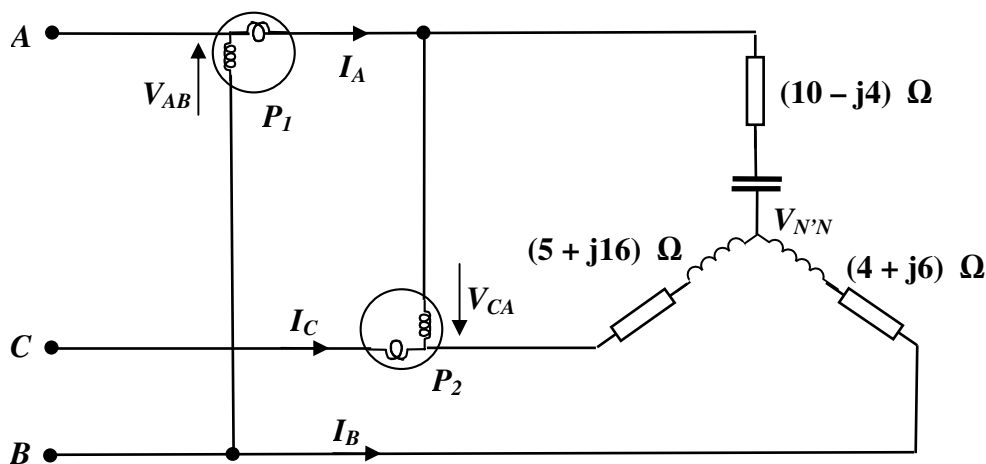
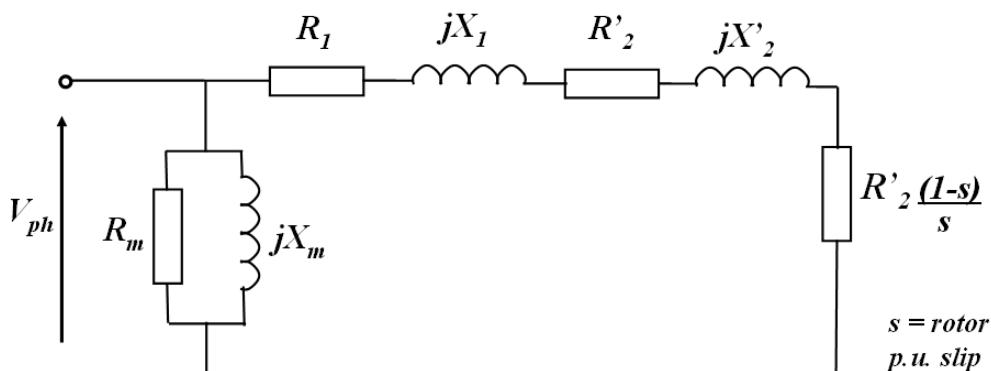

Figure 3.1
Figure 4.1
A 3-phase, star-connected load is supplied via a balanced 415V, 3-phase, 3-wire supply, of phase sequence ABC. The 3-phase load consists of three single-phase loads of $(10 - j4) \Omega$, $(4 + j6) \Omega$ and $(5 + j16) \Omega$, connected between phases A, B, C and the load star point respectively, as illustrated in Figure 3.1.
- (i) calculate the voltage across each phase of the load (8)
- (ii) hence calculate the three line currents (2)
- b. During installation, the wattmeters, P_1 and P_2 , were not correctly connected as shown in Figure 3.1:
- (i) sketch the phasor diagram for the system showing the three phase and line voltages, the three line currents and their relevant angles. (3)
- (ii) hence, calculate the readings on the two wattmeters and the sum of the two wattmeter readings. (2)
- (i) Describe how P_2 may be reconnected to correctly measure the power in the unbalanced load and calculate the new reading for P_2 . (2)
- (ii) Verify that the sum of the power readings on the two wattmeters measures the true power dissipated in the unbalanced 3-phase load. (1)
- (iii) If the star point of the load was connected to the neutral point of the supply would the sum of the power readings on the two wattmeters still measure the true power? Explain your answer. (Assume the neutral conductor has zero impedance and that the Wattmeters are correctly connected). (2)
- a. State two major benefits and two drawbacks of induction machines over synchronous machines, connected to an infinite bus-bar system, for wind generation applications. (2)
- b. Figure 4.1 shows a per-phase equivalent circuit of a 3-phase induction machine. Explain what each of the components represents. (2)
- c. A small factory has a typical base load demand of 50MVA at 0.72pf lagging. To reduce their annual energy requirements, the company installed a wind turbine. The turbine drives a 3-phase, star-connected, 8-pole induction machine generating into an 11kV, 50Hz, infinite bus-bar system. The machine can be modelled via a simplified, per phase equivalent circuit, as illustrated in Figure 4.1 which has the equivalent circuit parameters as detailed in Table 4.1